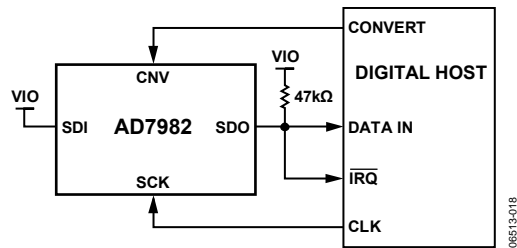
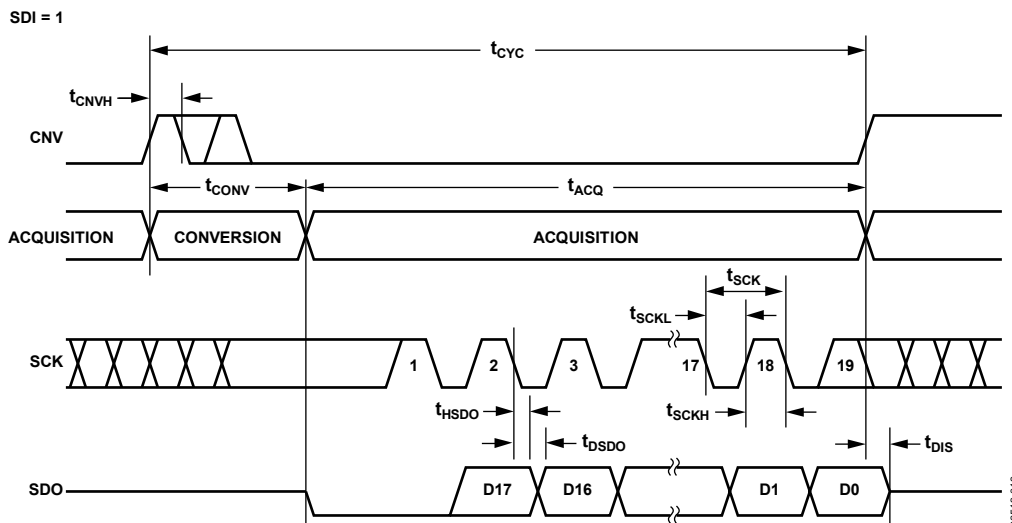
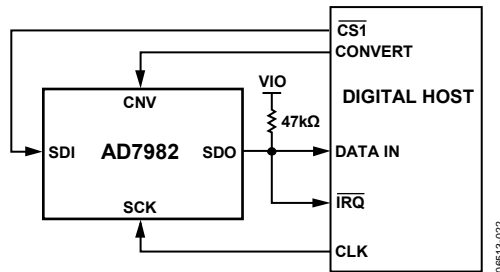
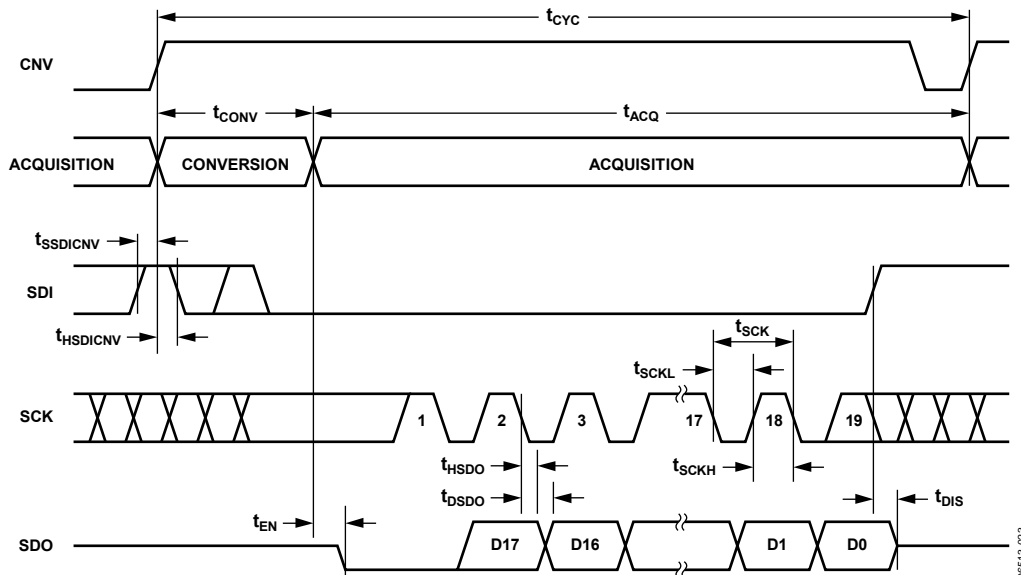

Figure 31. $\overline{\text{CS}}$ Mode, 3-Wire with Busy Indicator Connection Diagram (SDI High)
Figure 32. $\overline{\text{CS}}$ Mode, 3-Wire with Busy Indicator Serial Interface Timing (SDI High)
Figure 35. CS Mode, 4-Wire with Busy Indicator Connection Diagram
Figure 36. CS Mode, 4-Wire with Busy Indicator Serial Interface Timing
- In the \overline{CS} mode if CNV or SDI is low when the ADC conversion ends (see Figure 32 and Figure 36).
The connection diagram is shown in Figure 31, and the corresponding timing is given in Figure 32.
The connection diagram is shown in Figure 35, and the corresponding timing is given in Figure 36.